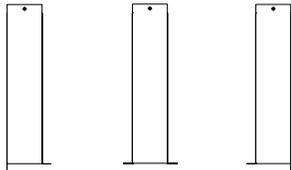

Figure 3 - Standoff Forming
2. The standoffs have a perforation located on each end. Bend them at the perforation as shown in **Figure 3**.